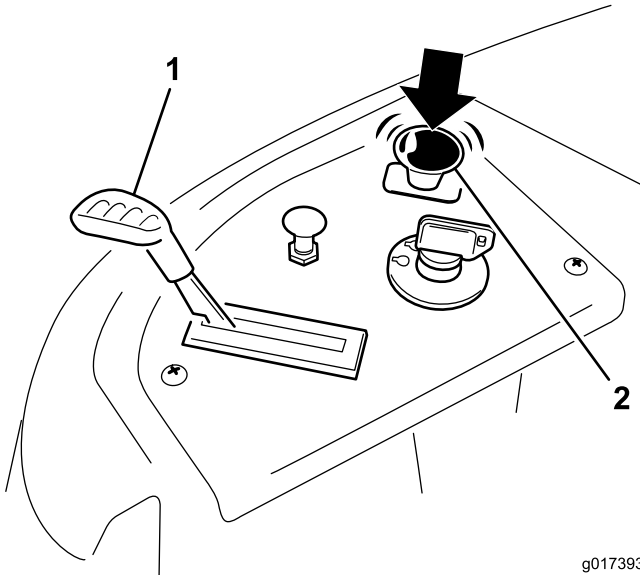

Figure 13
2. Disengage the blades by moving the blade control switch to Off (Figure 13)